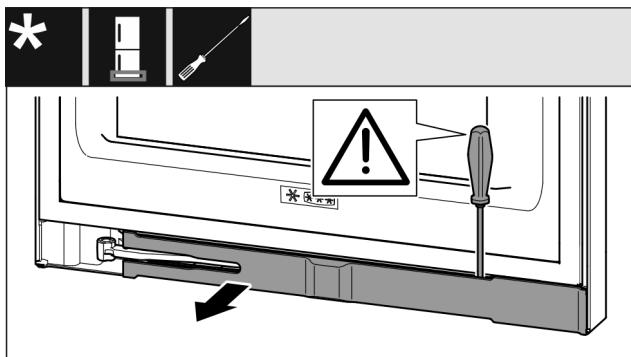

Fig. 15
- ▶ Use a slotted screwdriver to snap out the faceplate and swivel it to the side. (see Fig. 15)